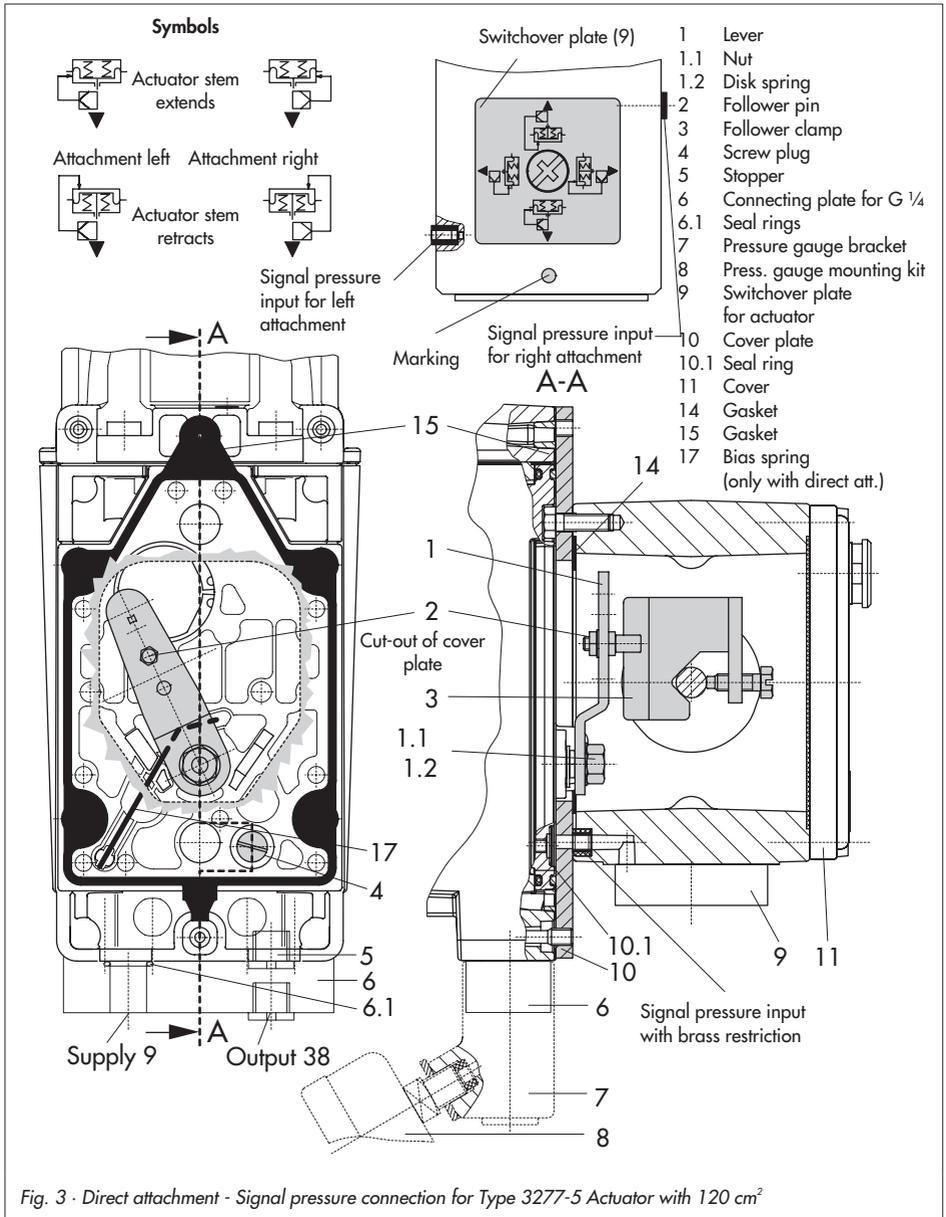

Fig. 3 · Direct attachment - Signal pressure connection for Type 3277-5 Actuator with 120 cm²
1. If applicable, mount pressure gauge bracket (7) with pressure gauges or, in case G ¼ threaded connections are required, the connecting plate (6), making sure both seal rings (6.1) are seated properly.
2. Remove screw plug (4) on the back of the positioner and seal the signal pressure output "Output 38" (or on the pressure gauge bracket (7) or on the connecting plate (6)) with the stopper (5) included in the accessories.
3. Place follower clamp (3) on the actuator stem, align and screw tight so that the mounting screw is located in the groove of the actuator stem.
5. Mount cover plate (10) with narrow side of the cut-out opening (Fig. 3, on the left) pointing towards the signal pressure connection. Make sure that the bonded gasket (14) points towards the actuator yoke.
6. **15 mm travel:** Keep the follower pin (2) at lever **M** (1) on the back of the positioner in the pin position **35** (delivered state).
7.5 mm travel: Remove the follower pin (2) from the pin position **35**, reposition it in the bore for pin position **25** and screw tight.